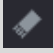

Figure 5-33
- On the timeline, drag to define a period. The Device starts recoding the selected event type in the defined period. See Figure 5-33.